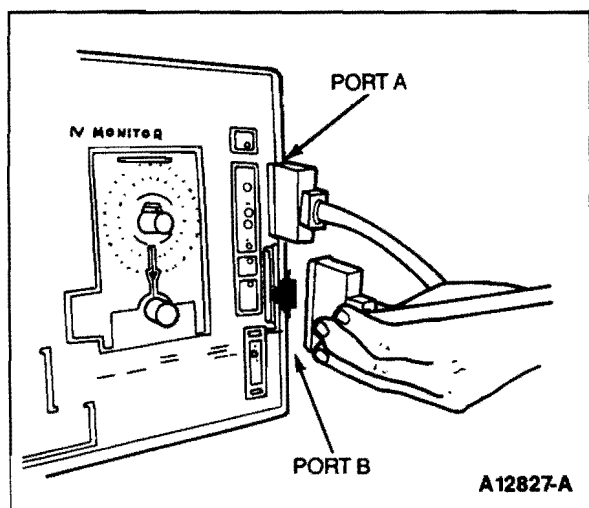

Figure 4
3. Install PORT A cable of the Recorder into PORT A connector on the Monitor; install PORT B cable in a similar manner. See that the cables are properly oriented before insertion and are firmly seated. See **Figure 4**.